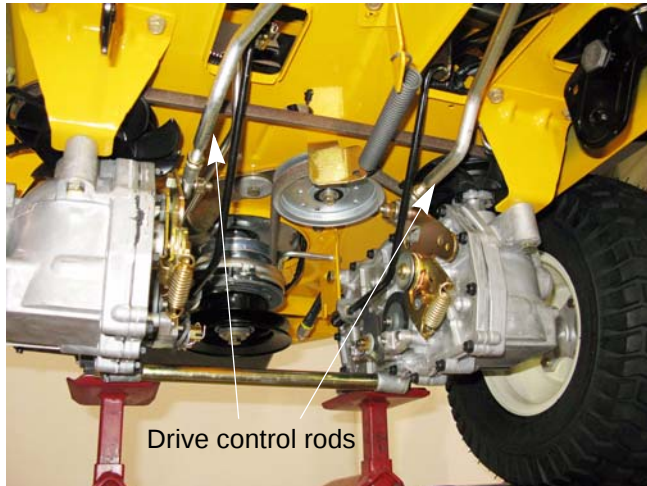

Figure 4.34
3. Disconnect both of the drive control rods from the transmission control arms using a pair of 9/16" wrenches. See Figure 4.34.